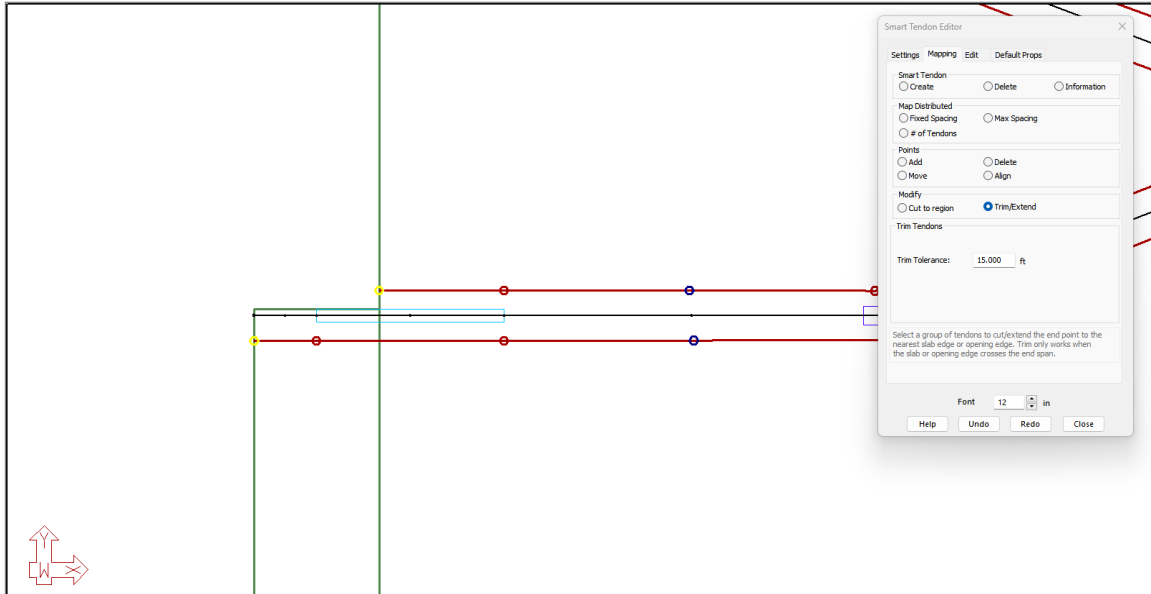

FIGURE 9-47
- Click to finish the construction line above the leftmost span of the top tendon to trim the tendon back to the slab edge. Now your screen will look as shown in **FIGURE 9-47**.